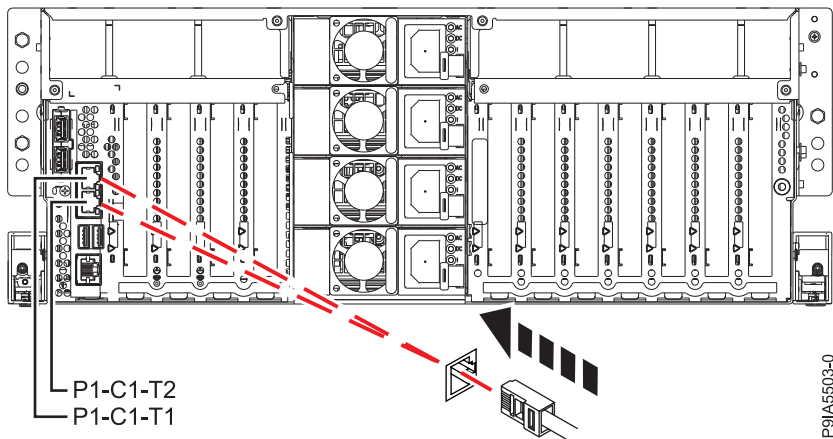

Figure 2. Replacing an HMC cable
2. Connect the HMC cable indicated in the **FRU Location** field in the upper left of this page. See Figure 2.